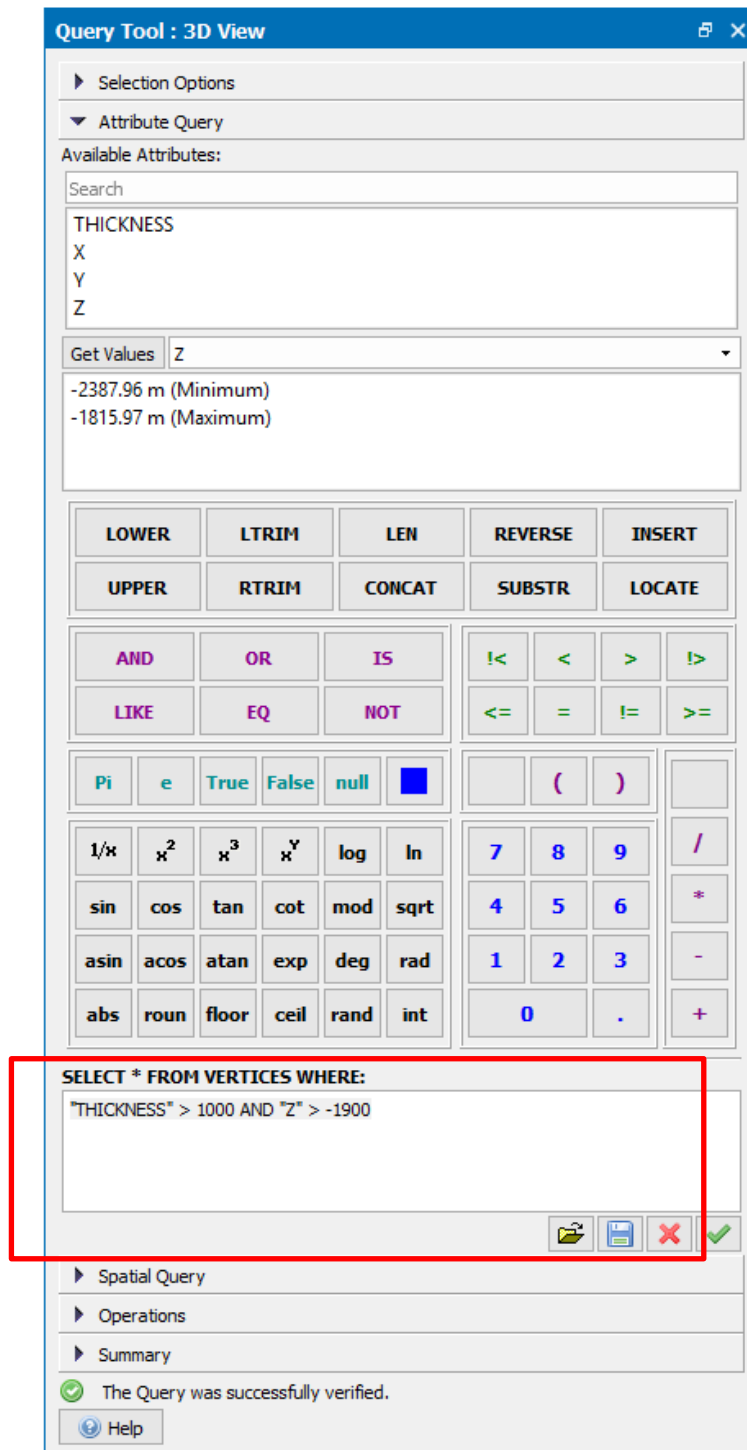

Figure 9. Setting up the Attribute Query on Triassic HW to select vertices where the unit thickness is >1000 m and the elevation is > -1900 m.
6. Using the calculator buttons in the tool or typing directly from your keyboard, enter the expression **"THICKNESS" > 1000 AND "Z" > -1900** in the **SELECT * FROM VERTICES WHERE** box. This is highlighted in Figure 9 by a red rectangle. Then click the green tick to apply the query.